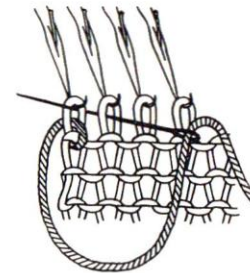

Fig. 58
- 2) Insert the needle into the second stitch and back through the first stitch. As shown in Fig. 58.